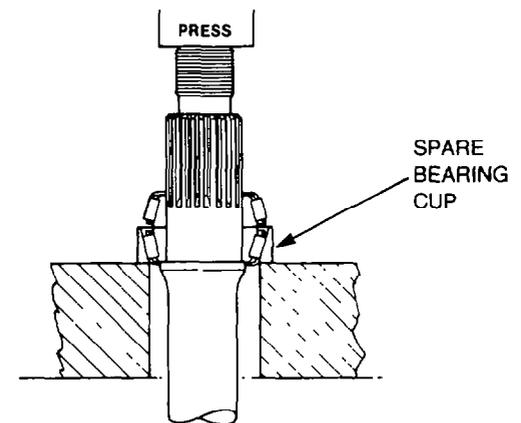

Figure 206 — Removing Bearings
- aa. Place a spare bearing cup over the inner bearing cone on the through shaft, then position the assembly in the press and press the through shaft from the bearings (see Fig. 206).